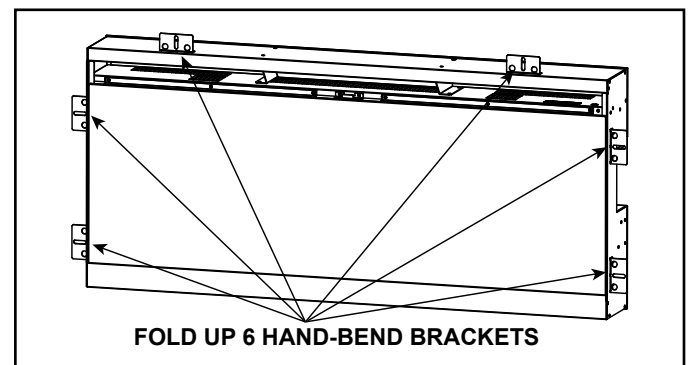

Figure 4.2 Hand-Bend Brackets for Recessed Wall Installation
1. Fold up the hand-bend brackets on the sides and top of the appliance. See Figure 4.2.